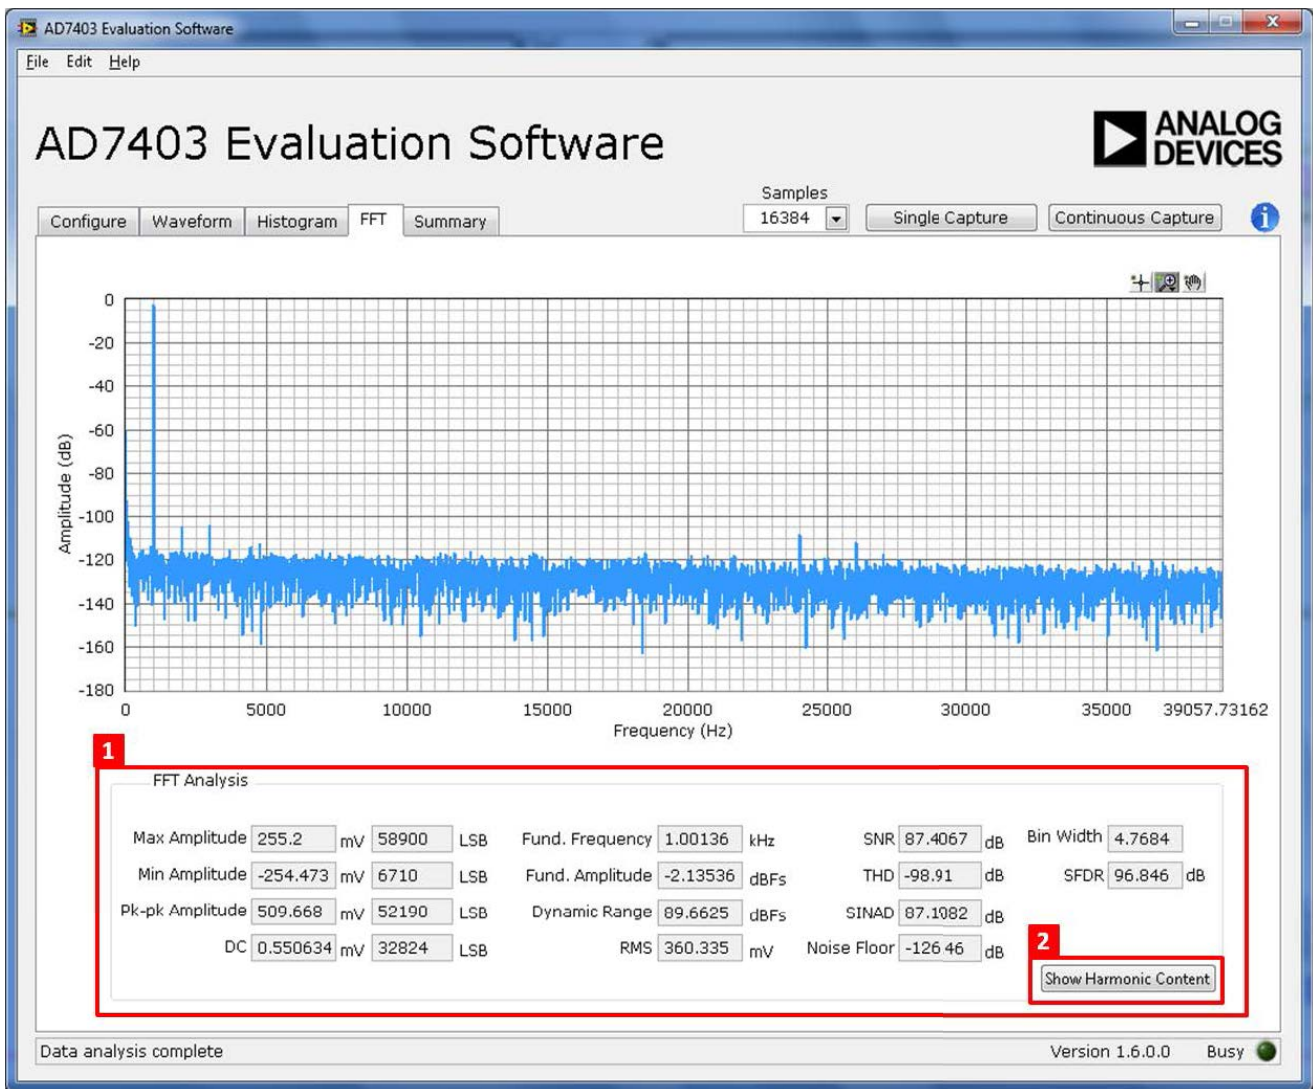

Figure 19. FFT Capture Tab
Figure 19 shows the FFT tab. This feature tests the traditional ac characteristics of the converter and displays a fast Fourier transform (FFT) of the results.
Figure 19 displays the spectral analysis results of the captured data.
- The **FFT Analysis** box displays the performance data: SNR, THD, SINAD, dynamic range, and noise performance along with the input signal characteristics (see label 1 in Figure 19).
- Clicking **Show Harmonic Content** (see label 2 in Figure 19) displays the frequency and amplitude of the fundamental in addition to the second to fifth harmonics.